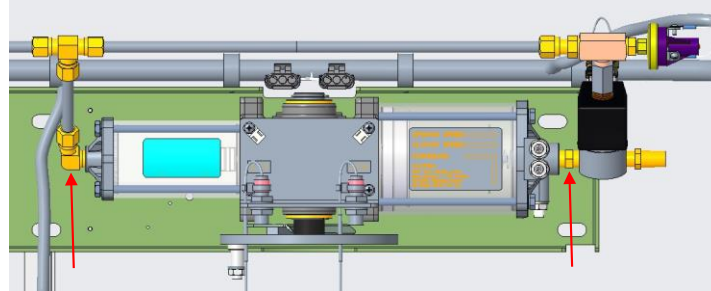

Figure 5: Remove Brass Fittings
- H.6. Locate RH Pneumatic Operator. Disconnect 3/8" brass elbow fitting and 3/8" brass connector, indicated in Figure 5, from both sides of the Operator.
- H.10. Connect brass fittings from Step H.6 and apply Thread Sealant, refer to Figure 5.